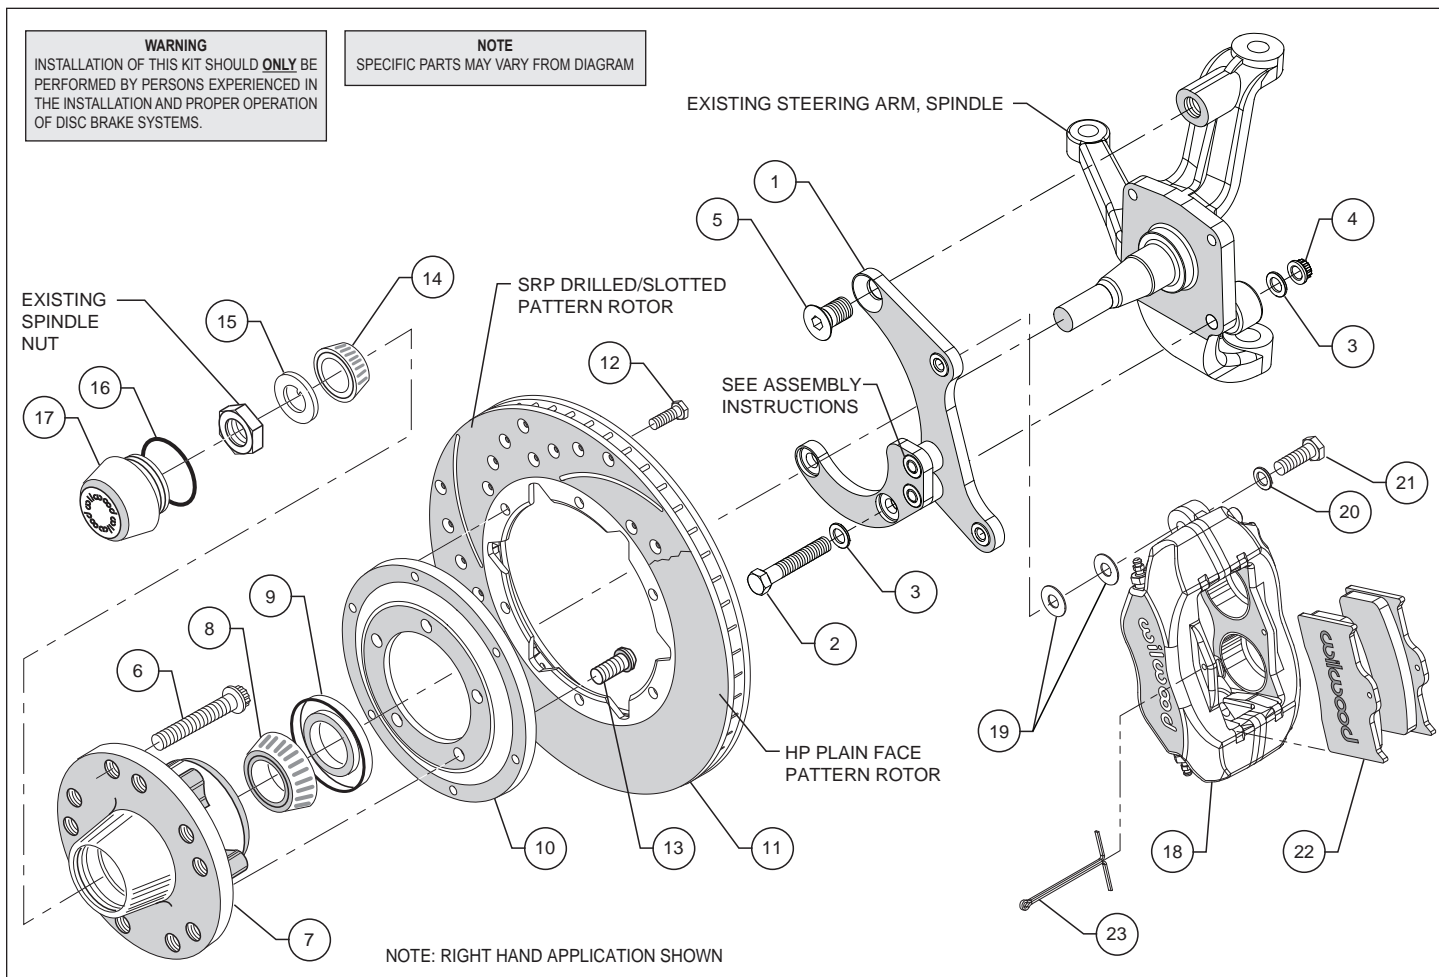
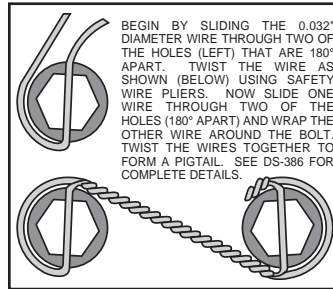
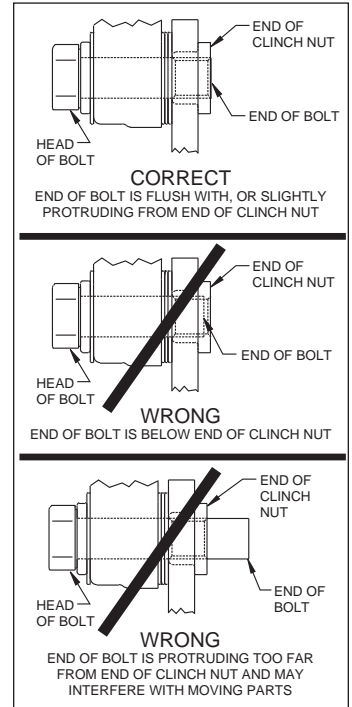

Figure 1. Typical Installation Configuration
Figure 4. Safety Wire Diagram
Figure 5. Clinch Nut Engagement Diagram
**Assembly Instructions** (numbers in parenthesis refer to the parts list and Figure 1 on the preceding pages): **CAUTION:** All mounting bolts must fully engage clinch nuts. Be sure to check that all bolts are either flush or protruding through flanged side of clinch nut after shimming, Figure 5.
- The caliper mounting bracket (1) has been assembled at the factory for alignment purposes. Loosen the two bolts that secure the brackets together so that the bolts are hand tight only, this will enable the bracket assembly to be adjusted to accommodate various spindle tolerances during assembly. Align bracket with the two lower holes on the spindle face and attach using bolts (2), washers (3), and secure using lock nuts (4), as shown in Figure 1 and Photo 1. Install bolt (5) through top of bracket and into the spindle. Temporarily tighten the mounting bolts. Ensure that the flanged heads of the clinch nuts in the bracket are facing outboard, Photo 1. **NOTE:** The bracket must fit squarely against the mounting points on the spindle. Inspect for interference from casting irregularities, machining ridges, burrs, etc. Remove lower bolts one at a time, apply red *Loctite*® 271 to the threads, and torque nuts to 47 ft-lb. Remove the upper bolt, apply red *Loctite*® 271 to threads, and torque to 140 ft-lb. Remove one at a time the bolts that secure the bracket assembly to each other, apply red *Loctite*® 271 to the threads and torque to 40 ft-lb.
- Pack the large inner bearing cone (8) with high temperature disc brake bearing grease (available from your local auto parts store) and install into the backside of the hub (7), Photo 3.
- Install the grease seal (9) by pressing into the backside of the hub (7), flush with the end of the hub, Photo 3.
- Orient the rotor (11) and the rotor adapter (10) as shown in Figure 1 and Photo 4. Attach the rotor to the adapter using bolts (12). Using an alternating sequence, apply red *Loctite*® 271 to the threads, and torque to 180 in-lb. Safety wire bolts (12) using standard 0.032 inch diameter stainless steel safety wire as shown in Figure 4. Please refer to Wilwood's data sheet DS-386 (available at [www.wilwood.com/Pdf/DataSheets/ds386.pdf](http://www.wilwood.com/Pdf/DataSheets/ds386.pdf)) for complete safety wire installation instructions.
- Mount the adapter/rotor assembly (10/11) to the hub (7) using bolts (13), as shown in Figure 1 and Photo 5. Using an alternating sequence, apply red *Loctite*® 271 to the threads, and torque to 55 ft-lb.
- Pack the small outer bearing cone (14) with high temperature disc brake bearing grease and install into hub (7). Slide the hub/rotor assembly onto the spindle. Secure using spindle washer (15) and OEM spindle nut, Photo 6. Adjust bearings by tightening the wheel bearing nut to 60 **in-lbs.** while turning the hub/rotor assembly (10/11). Install saved OEM nut lock (if any) on the wheel bearing nut with one pair of slots in-line with (covering) the cotter pin hole. Back off the adjusting nut lock assembly (or castle nut) one slot and install a new cotter pin (not supplied). **The resulting adjustment should be zero (no pre-load) to 0.003 inch end play.**
- Screw dust cap (17) into hub (7), Photo 7. Friction created by the o-ring (16) on the dust cap keeps it from unscrewing. **NOTE:** *The O.D. of the existing OEM spindle washer may be larger than the I.D. of the dust cap not allowing it to seat against the hub face. Therefore, use the spindle washer (15) supplied with the kit instead of the OEM washer.*
- NOTE:** *Please reference the caution statement at the beginning of the assembly instructions.* Mount the caliper (18) onto the caliper mounting bracket (1) using bolts (21) and washers (20), as shown in Figure 1. Initially place two .032" thick shims (19) on each bolt between the caliper and the bracket, Photo 8. Temporarily tighten the mounting bolts and view the rotor (11) through the top opening of the caliper. The rotor should be centered in the caliper, Photo 9. If not, adjust by adding or subtracting shims between the bracket and the caliper. Always use the same amount of shims on each of the two mounting bolts. **NOTE:** *The end of each bolt must be flush with or slightly protruding from the head of the clinch nut, as shown in Figure 5.* If necessary place spare shims between washer (20) and caliper mounting ear to achieve the proper clinch nut engagement. Once the caliper alignment and clinch nut engagement are correct, remove the bolts one at a time, apply red *Loctite*® 271 to bolt threads, and torque to 40 ft-lb. Safety wire the bolts as shown in Figure 4.
- Install the disc brake pads (22) into the caliper, with the friction material facing the rotor (11), and secure in place using cotter pin (23), Photo 10.